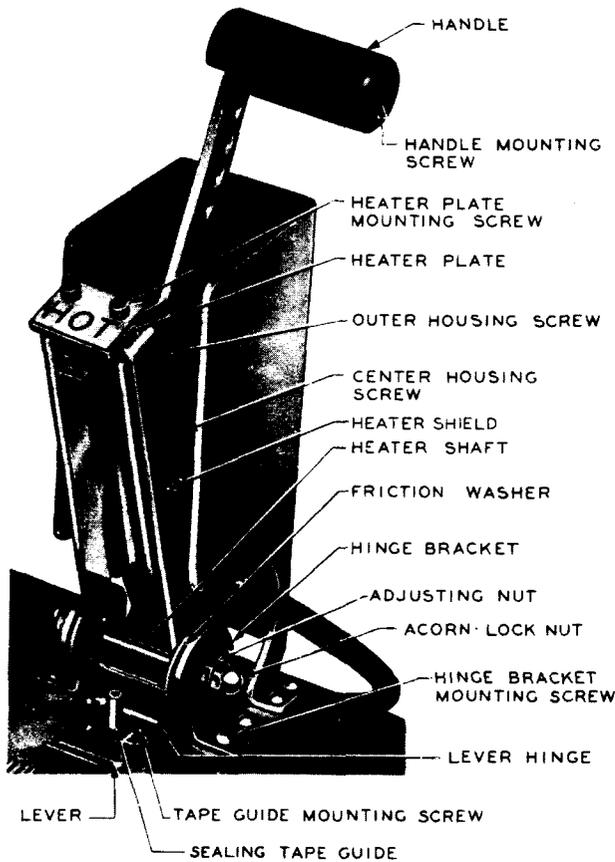

Fig. 7--Heater and Tape Guide Assembly
3.10 Hinge Bracket or Friction Washer: (Fig. 7)—Bring the heater down on the anvil, and remove the hinge bracket mounting screws with the 3-inch **◆C◆** screwdriver. Remove one acorn locknut and adjusting nut with one 417A wrench while holding the other acorn locknut with the other 417A wrench and remove the washer. Replace the hinge bracket or friction washer as required. Reassemble the parts and tighten the screws and acorn locknuts securely.
3.11 Heater Shaft: (Fig. 7)—Loosen the cleat mounting screws at the rear of the base with the 3-inch **◆C◆** screwdriver. Bring the heater down on the anvil and remove both brackets and friction washers as covered in 3.10. Grasp one
3.12 Heater Shield: (Fig. 7)—Remove the heater housing, terminal bracket, and shaft as covered in 3.08, 3.09, and 3.11, respectively. Remove the handle mounting screw with the 4-inch **E** screwdriver and remove the handle. Remove the heater plate by removing the heater plate mounting screws with the R-2670 wrench. Replace the heater shield, and reassemble the parts.
3.17 Sealing Tape Guide or Lever: (Fig. 7)—Remove the splicer (except the 604E) from its mounting as covered in 3.05. Remove the tape guide mounting screws and nuts with the 3-inch \blacklozenge C \blacklozenge screwdriver and 417A wrench. Replace the tape guide or lever, as required, and reassemble the parts. Remount the splicer if it was removed.